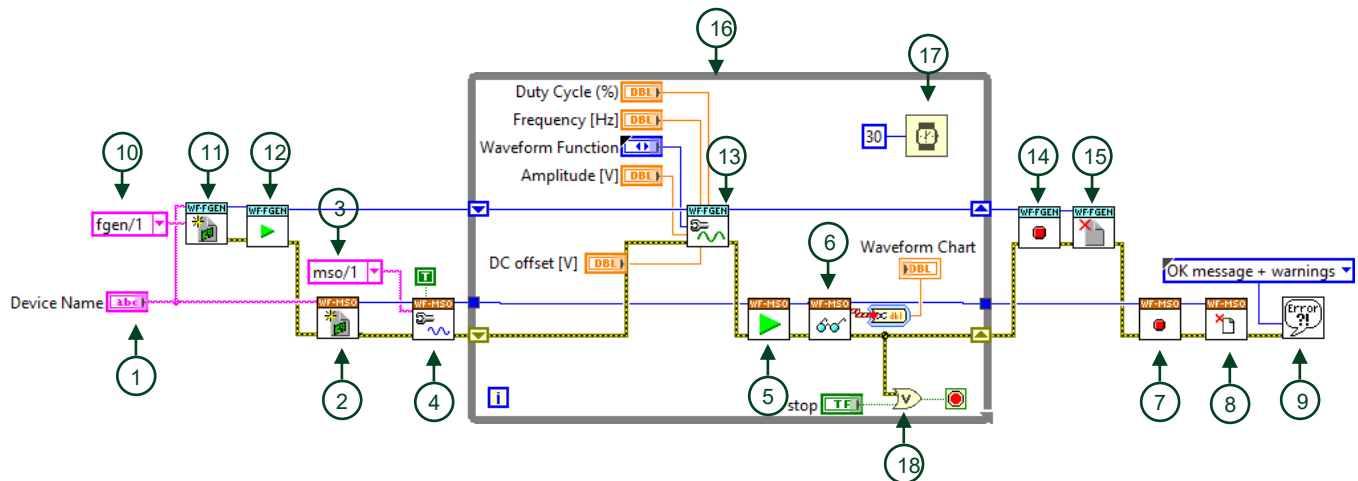

Figure 6 VI Block Diagram for AD3, ADS and ADS MAX
- 2.1. Modify the block diagram as shown in **Figure 6**.
Figure 6 shows the LabVIEW block diagram code applicable to Analog Discovery 3, Analog Discovery Studio and Analog Discovery Studio MAX devices.